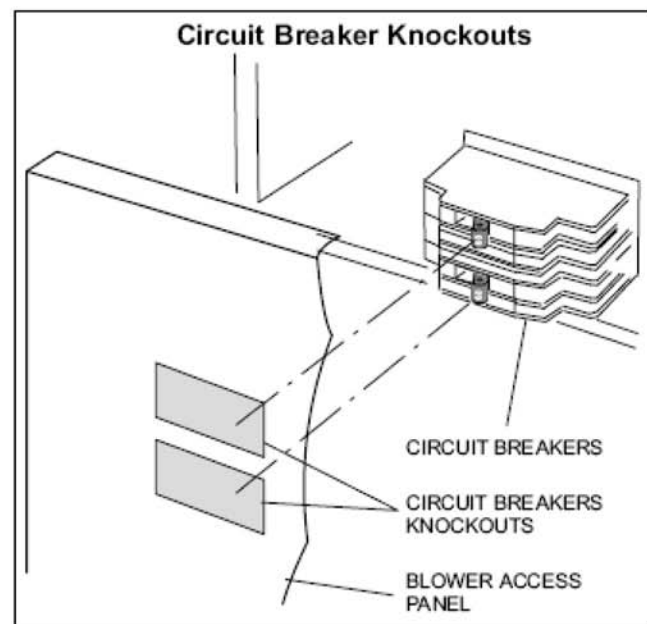

Figure 3
7. The air handler access panels have knockouts over the circuit breaker opening. Knock out both plates to accommodate the circuit breaker levers (see figure 3). If installing a heat element assembly with circuit breakers, remove the knockouts but do not install the access panel until all electrical connections have been completed.